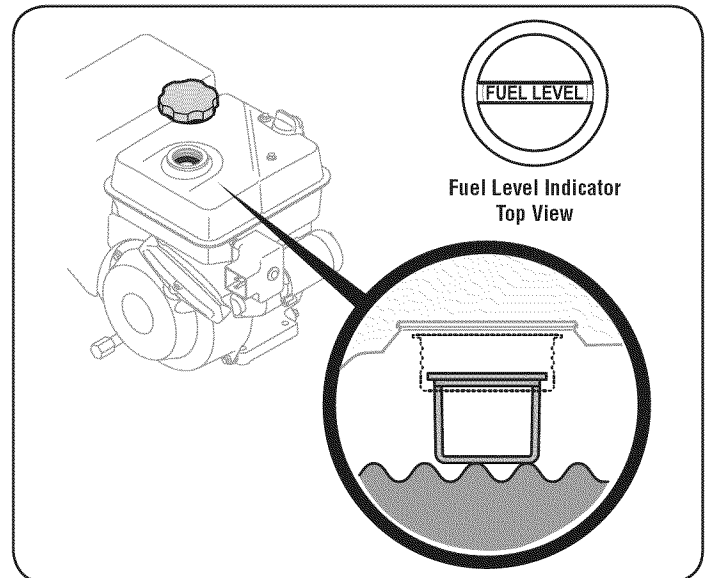

Figure 7
4. Fill the tank until the fuel reaches the "fuel full" indicator mark. See Figure 7.